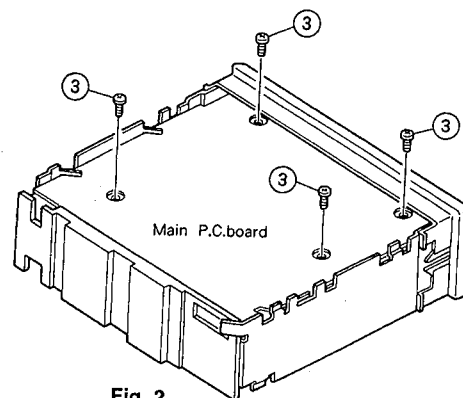

Fig. 2
■ Mechanism assembly (refer to Fig. 2 , 3)
3. Turn over the main unit and remove the four screws ③ retaining the mechanism assembly from the main unit.